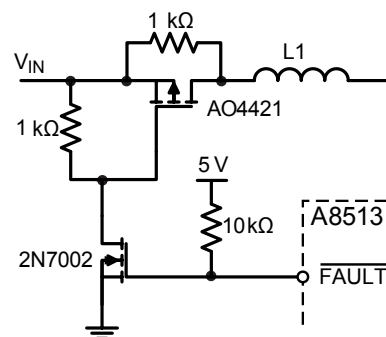

Figure 14. Typical circuit for input disconnect switch.
**Undervoltage Protection** The OVP pin is also used to detect output undervoltage protection (UVP) against  $V_{OUT}$  short to GND. When the UVP fault is tripped, the fault flag is set (figure 14). Using an external PMOSFET interfaced to the  $\overline{\text{FAULT}}$  pin (figure 14), the user can disconnect the IC from  $V_{IN}$  during a fault event.